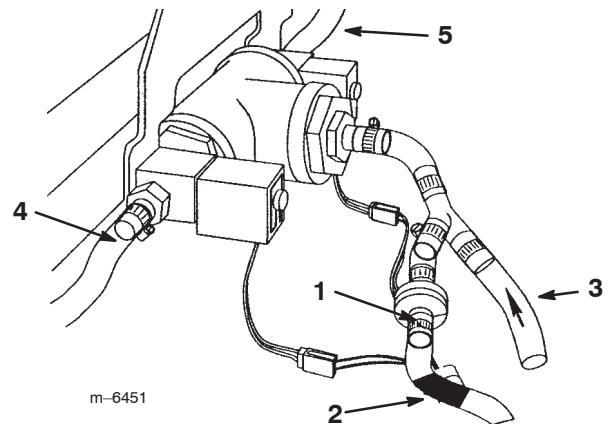

Figure 34
20. Ensure that the marked supply hose is connected at the compressor and the check valve. If not, correct it before using (Fig. 34).
- 22.** Secure both hoses with small hose clamps (Fig. 34).